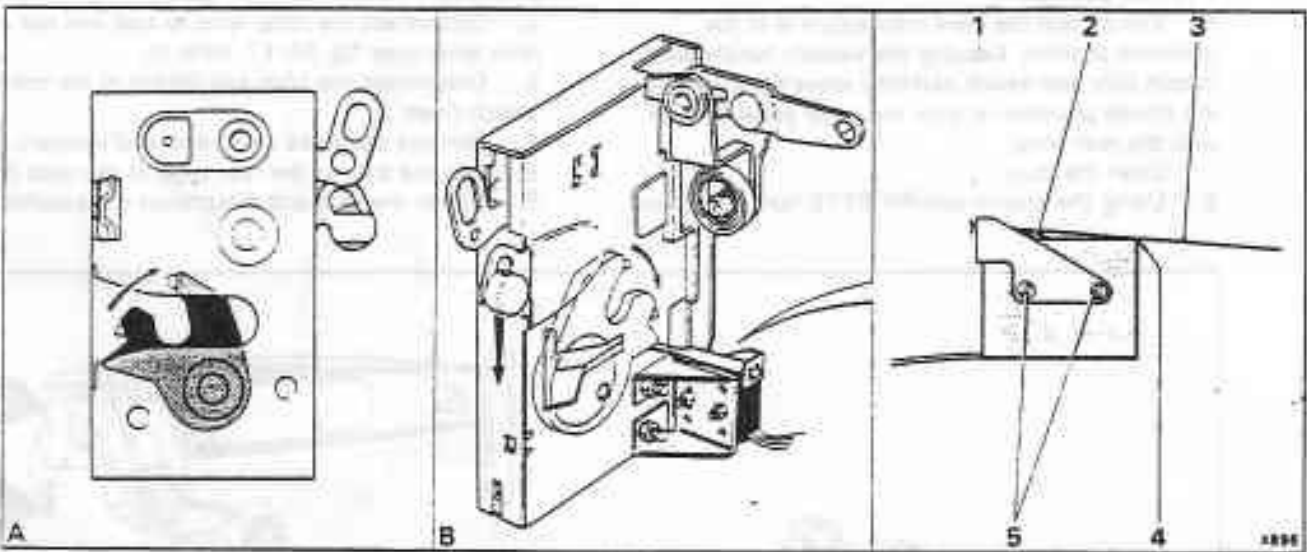
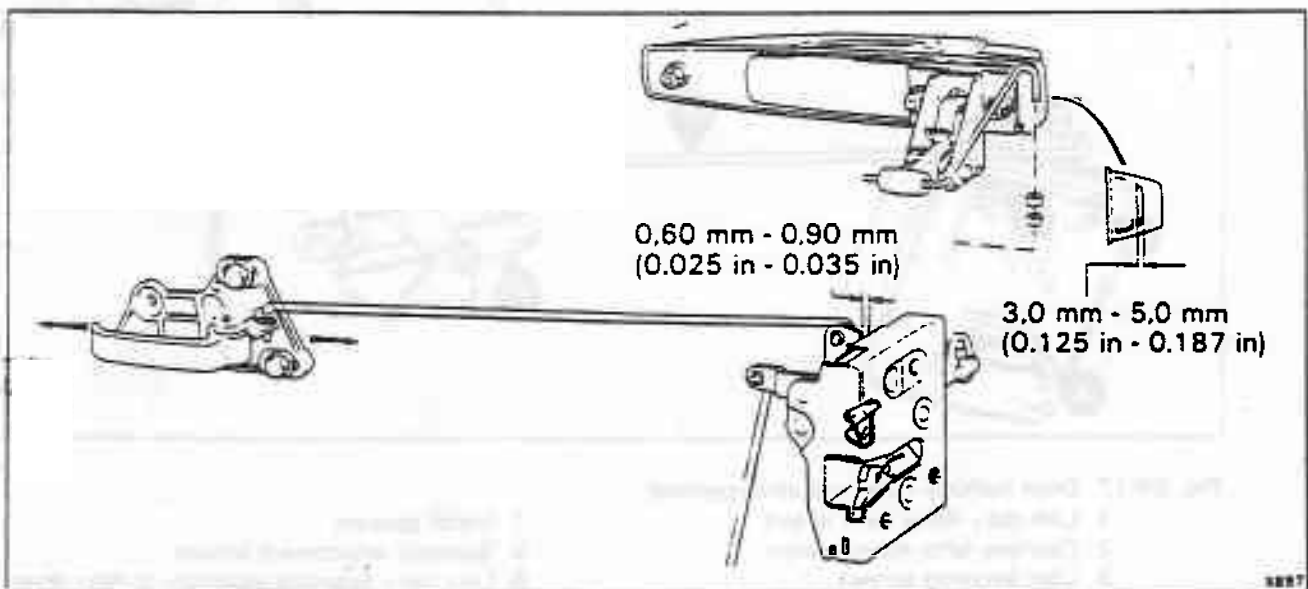

Fig. S4-18 Setting the courtesy lamp micro-switch
Fig. S4-19 Setting the interior and exterior door handles
2. Before inserting the lock into the door, push the claw mechanism into the door closed position (see fig. S4-18, A).
Release the claw mechanism into the door open position (see fig. S4-18, B). Adjust the position of the switch, ensuring that the actuator lever is lightly touching the corner of the switch (see fig. S4-18, item 4). Tighten the screws.
2. Push the handle forwards until all the slack is taken up in the control rod, and the handle returns fully against its stop. From that position, push the handle further forwards until the correct gap is attained between the lever and lock (see fig. S4-19).
1. Push the claw mechanism into the door closed position (see fig. S4-18, A). Check the operation of the push button and ensure that the overtravel is correct (see fig. S4-19).